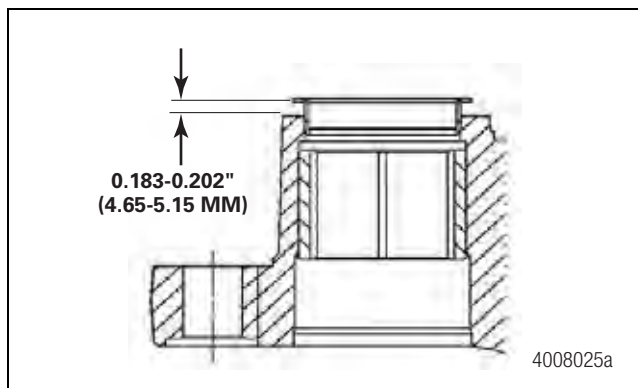

Figure 5.45
3. Use the applicable parts of Meritor tool MST 1000 to draw the retainer into the slide pin bore until the flat face of the retainer is 0.183-0.202-inch (4.65-5.15 mm) from the end of the slide pin bore. Figure 5.45.